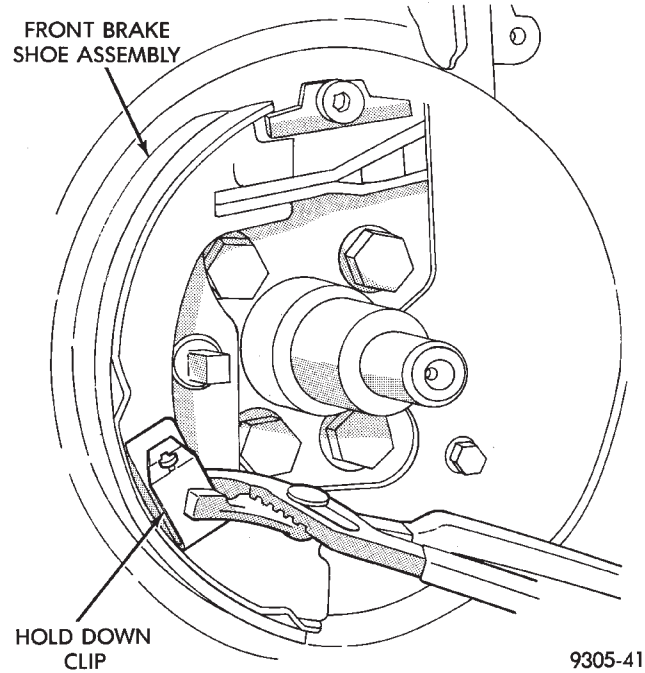

Fig. 154 Front Hold Down Clip And Brake Shoe
(11) Remove front brake shoe hold-down clip (Fig. 154). Then remove front brake shoe assembly.
(1) Install front brake shoe and hold down clip (Fig. 154).